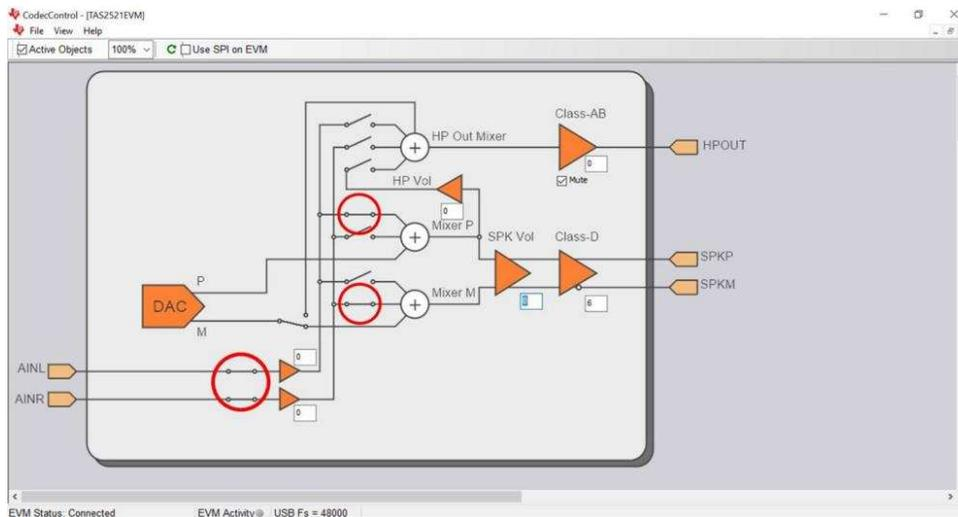

Figure 14. Settings for Analog Inputs
- a. On the GUI, close the switches circled in red in Figure 14 by clicking on them.